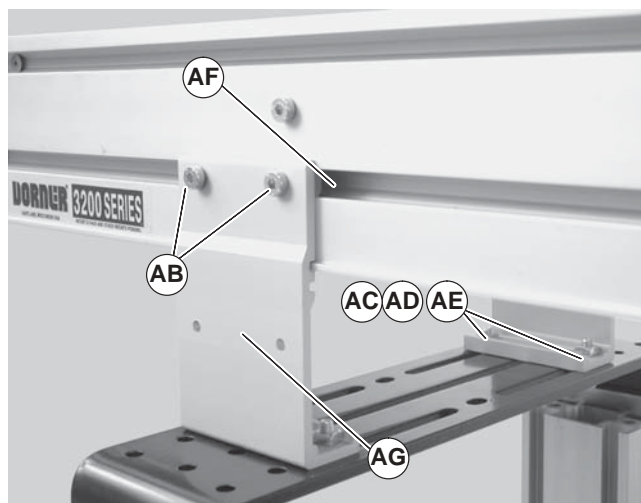

Figure 11
- Insert T-bars (Figure 10, item AF) into conveyor side slots (Figure 11, item AF). Fasten brackets (Figure 11, item AG) to conveyor with mounting screws (AB).
4. Fasten brackets to support stand with mounting screws (Figure 11, item AC), washers (AD) and nuts (AE).
5. Tighten screws (Figure 11, item AB & AC) to 60 in-lb (7 Nm).